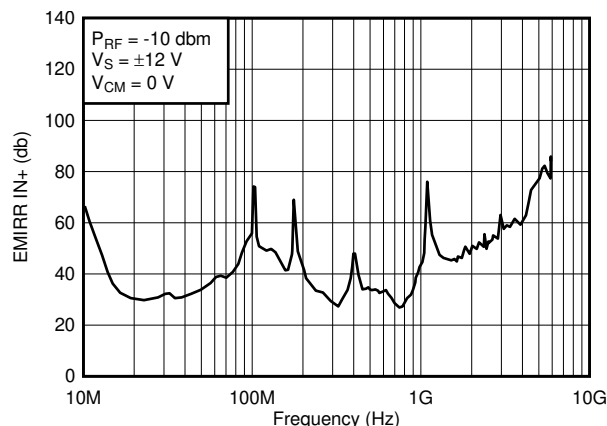

Figure 46. OPA211 EMIRR
3. EMIRR is easier to measure on noninverting pins than on other pins because the noninverting input terminal can be isolated on a printed-circuit-board (PCB). This isolation allows the RF signal to be applied directly to the noninverting input terminal with no complex interactions from other components or connecting PCB traces. Figure 46
The EMIRR IN+ of the OPA211 is plotted versus frequency as shown in Figure 46. If available, any dual and quad operational amplifier device versions have nearly similar EMIRR IN+ performance. The OPA211 unity-gain bandwidth is 45 MHz. EMIRR performance below this frequency denotes interfering signals that fall within the operational amplifier bandwidth.